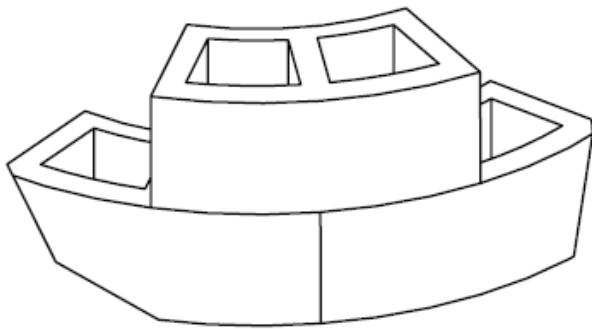

Figure 8 - Staggered Blocks
3. When starting second layer, stagger blocks to the first layer (see Figure 8). For the MFR24-48, use 8 blocks to build the second layer. After laying out all blocks, using a level, verify all the blocks are level. Shim if necessary.